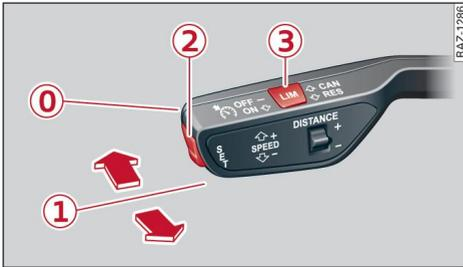

Fig. 96 Control lever: Operating adaptive cruise assist
- ▶ You can extend the **Ready to drive off** period by pulling the lever towards you briefly in the direction of the arrow ⇒ *page 120, Fig. 96*. ▶